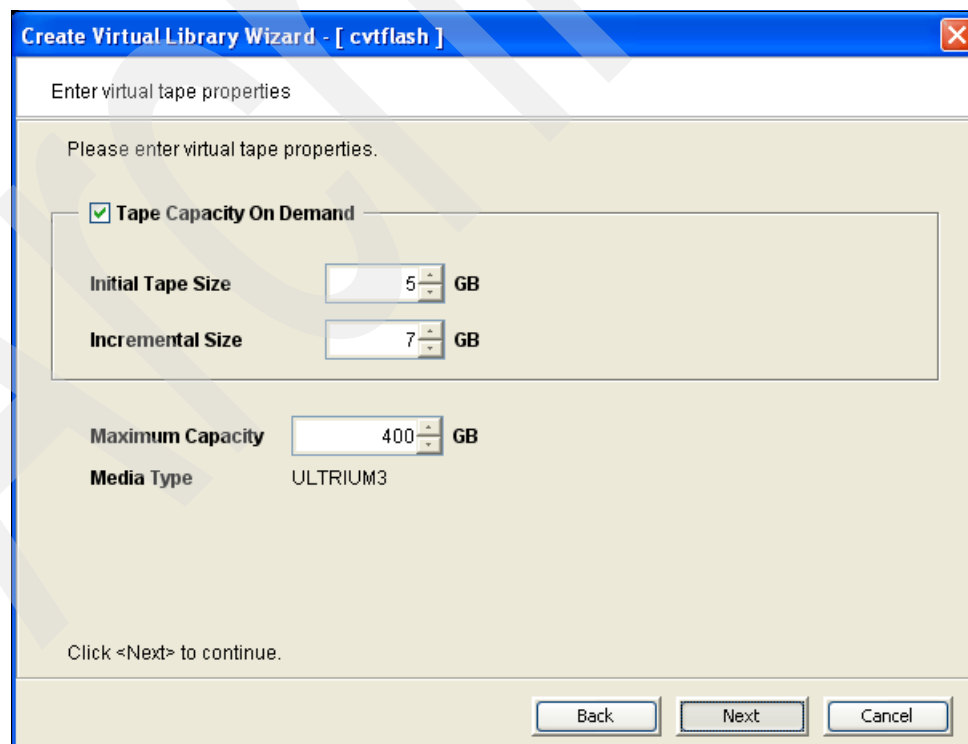

Figure 6-98 Cached virtual library creation: Batch creation status
12. Verify that the virtual library and drives were successfully created (Figure 6-98). Click **OK**.